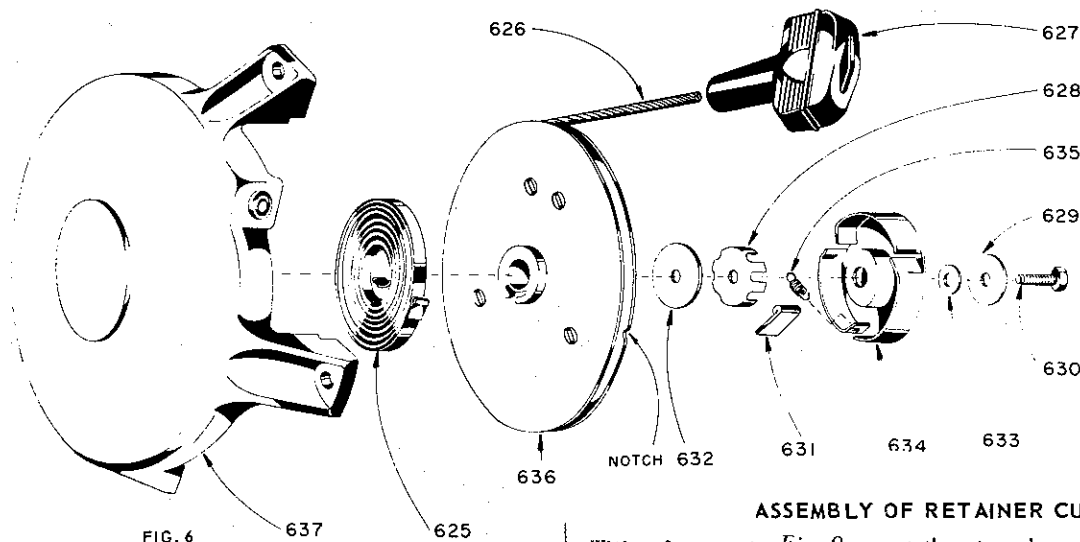

FIG. 6
NOTE: The numbers shown in the disassembly procedure are the reference numbers of the parts in the exploded view of the rewind starter, *Fig. 6*.
With reference to *Fig. 6*, assemble washers (633) and (629). Mount center screw (630) and tighten 45 to 65 inch pounds torque.